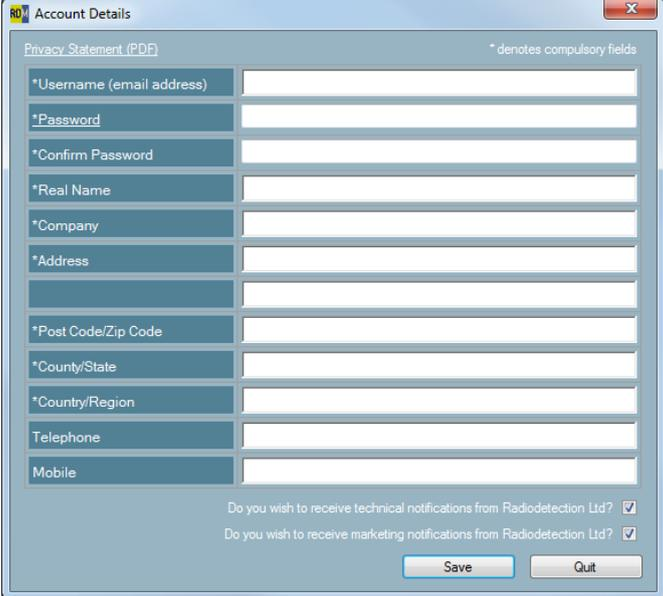

Figure 3.2 Account Details screen
- 3 Fill the account screen, figure 3.2